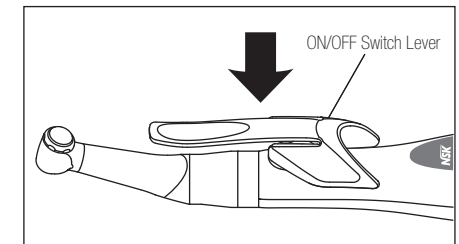

Fig. 6
- Mount the ON/OFF Switch lever shown as Fig. 6.